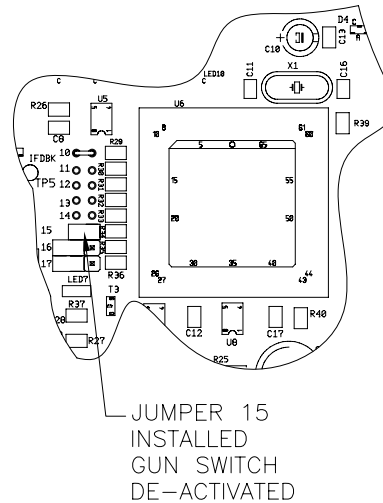

Figure 17: Jumper Location - Applicator Switch Lockout
2. Place the jumper across the two (2) pins at location 15 on the main PC board (see Figure 17).